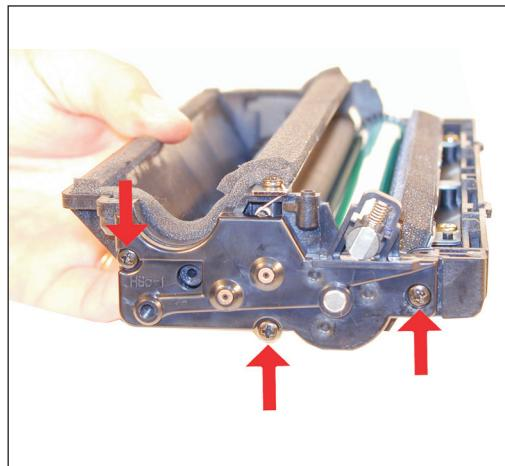

Figure 13
- 7) With the toner hopper away from you, remove the three screws on the left side end cap. Remove the end cap. See Figure 13